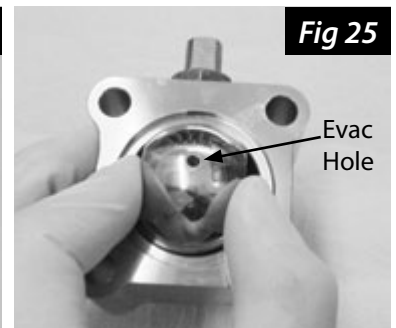

Fig 25
9. Align the valve stem with the notch in the ball and carefully drop the ball into the valve center section, being sure the evac hole is facing up (Fig 25).